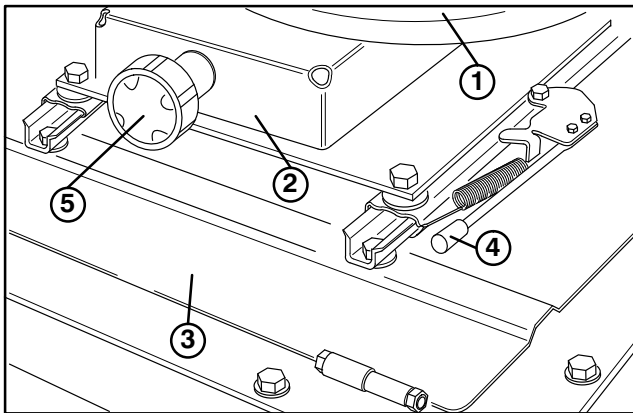

Figure 7
6. Adjust seat for operator's comfort and weight. To adjust seat fore and aft, pull handle on left side of seat assembly outward (Fig. 7). Release handle to lock seat position. To adjust for operator's weight, turn spring tension knob; clockwise to increase tension, counterclockwise to decrease spring tension (Fig. 7).